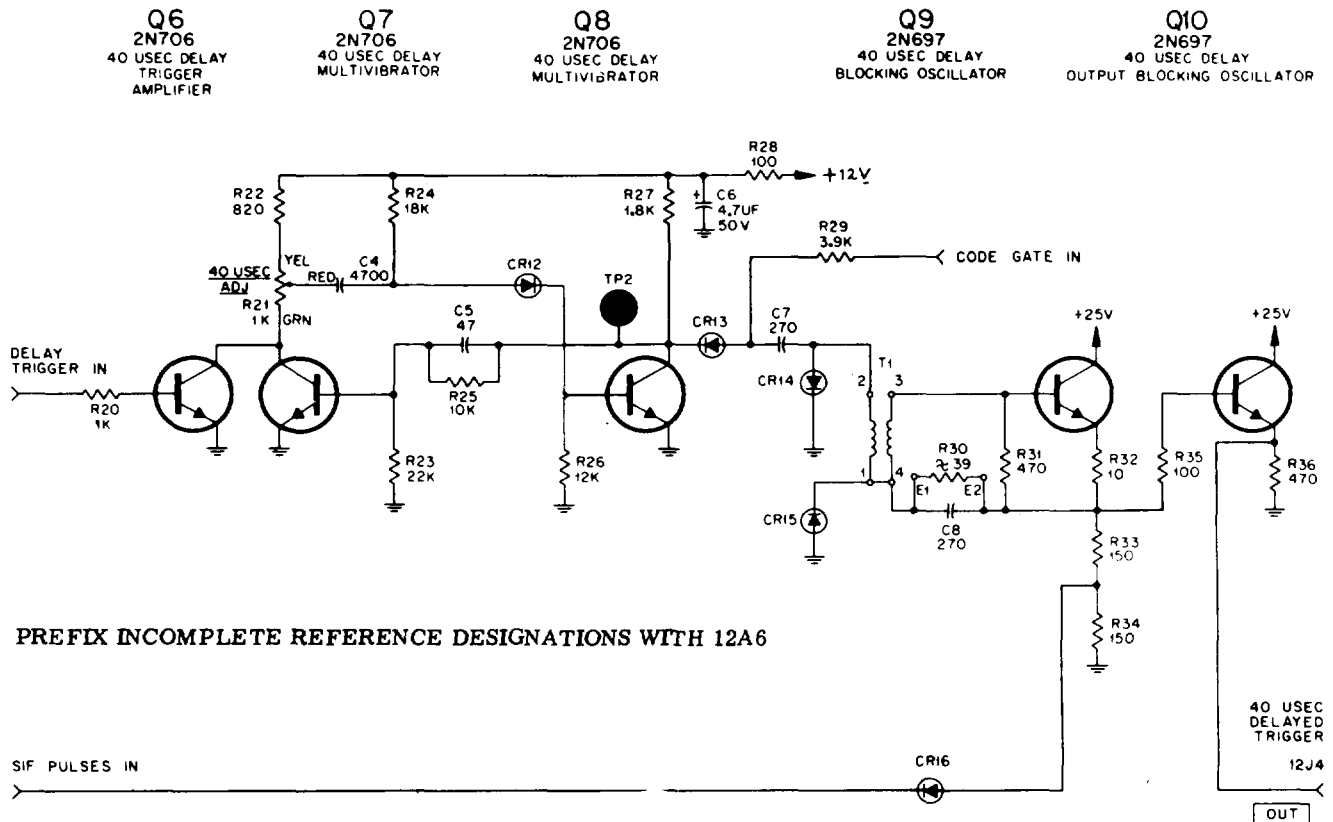

Figure 4-12. 40-μsec Delay Trigger Generating Circuits, Simplified Schematic Diagram
5. 40- MICROSECOND DELAY TRIGGER CIRCUITS. - A pulse delayed 40 microseconds from the input is available at OUT receptacle 12J4 during the simulation of interrogations in most modes. As shown in figure 4-12, the delay trigger signal from VIDEO selector switch 12S8 is fed to 40-microsecond delay trigger amplifier 12A6Q6 in Delay and Tag Generator Assembly 12A6. The output of 12A6Q8 is coupled to 40 usec delay
(d) DELAY AND RESET TAG GENERATOR ASSEMBLY 12A6. - The primary function of the 12A6 assembly is to produce the pulses which are used as triggers for pulse-modulating the ISLS rf circuits. This assembly also mixes trigger pulses for generating the normal code trains and the reset pulses, and in addition it produces a 40-microsecond delayed trigger signal (figure 4-12).